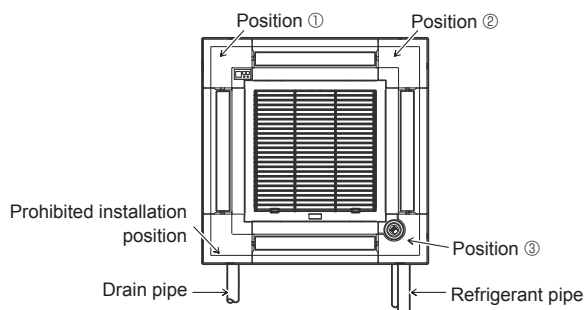

Fig. 9-10
- The i-see Sensor corner panel should be fixed onto the grille ① with screw ③.
- * If the position of the i-see Sensor was changed from default position (Position ③) to the other position, change the function settings. (Refer to page 10 and Fig. 9-10)
- The i-see Sensor corner panel can not installed on the drain pipe side for the main unit. (Refer to Fig. 9-10)